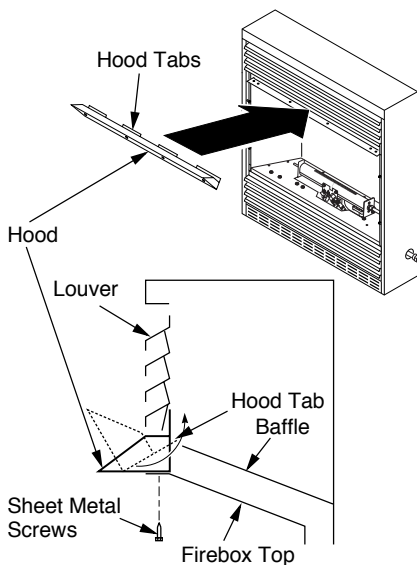

Figure 3 - Assembling Hood
5. Rotate hood as shown in Figure 3. Make sure hood tabs point toward fireplace.
6. Insert hood tabs between baffle and louvers (see Figure 3).
7. Gently rotate hood to upright position. Make sure hood tabs are behind louvers and hood is resting on firebox top (see Figure 3).
9. Insert screws as shown in Figure 3. Tighten screws firmly.